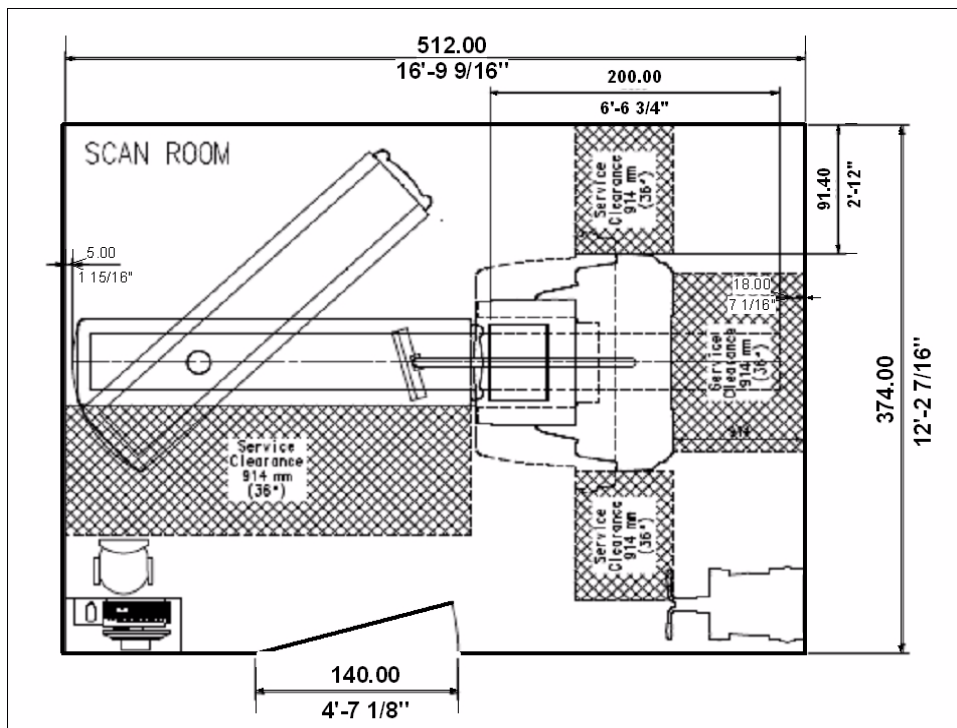
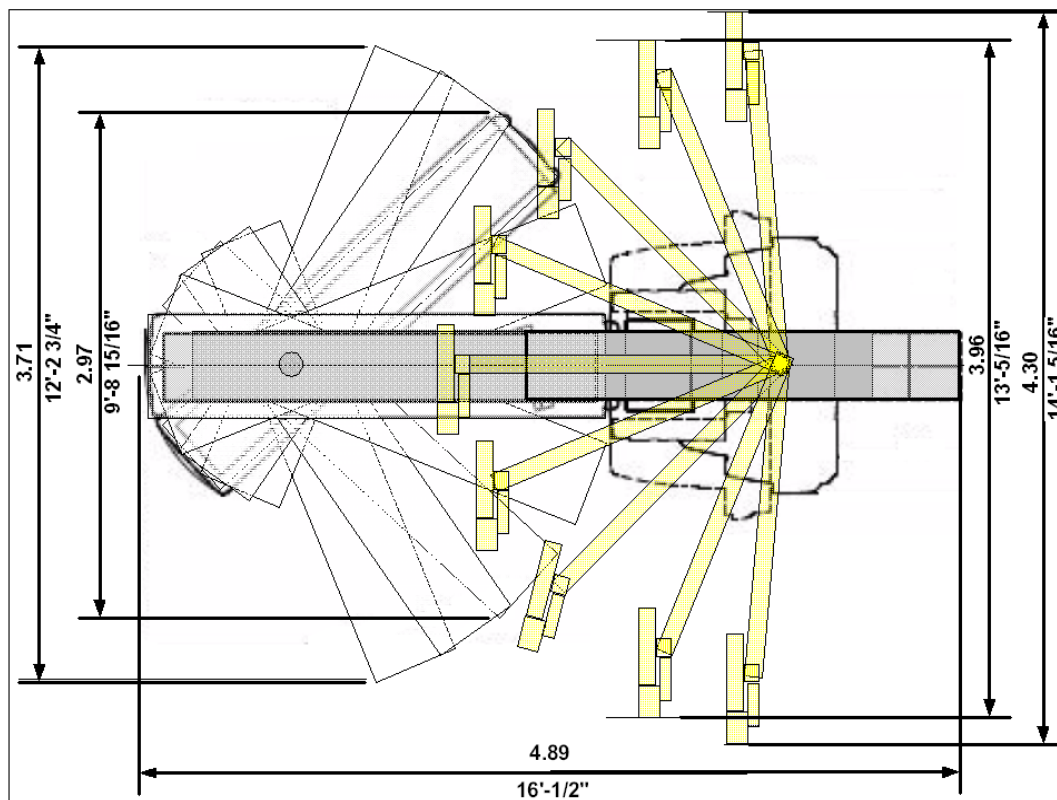

Figure 2-5: B615 Minimal Room Layout
Figure 2-7: B615 Component Movement Curves
(see Figure 2-5: B615 Minimal Room Layout, p.2-10)
- Figure 2-5: B615 Minimal Room Layout, p.2-10
Figure 2-7: B615 Component Movement Curves, p.2-13 illustrates the table and gantry movement. In addition, the ECG trigger monitor and collimator carts can be moved to different locations in the scan room, as demonstrated in the room layout illustrations in Figure 2-5: B615 Minimal Room Layout, p.2-10 and Figure 2-6: B615 Standard Room Layout, p.2-11.